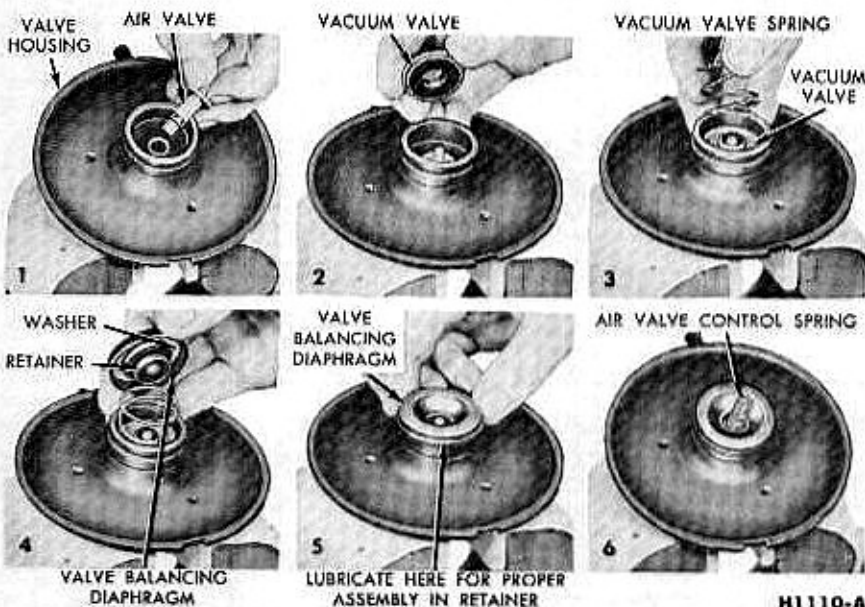

FIG. 9—Air Valve and Vacuum Valve Installation
6. Fig. 9 shows the assembly operations for installing the air valve and the vacuum valve. Refer to this figure and reverse the operation order to disassemble. Remove the valve housing from the vise.
2. Refer to Fig. 9 and assemble the air and vacuum valves. Lubricate all moving parts with a light coat of silicone lubricant. If new valve parts to be installed are coated with this lubricant, do not wipe it off.
Note that the retainer, which is shown in operation No. 4 (Fig. 9), is installed on the valve balancing diaphragm with the small diameter toward the diaphragm.
In operation No. 5 (Fig. 9), the retainer and the center diaphragm bead must be pressed down over the vacuum valve "neck."